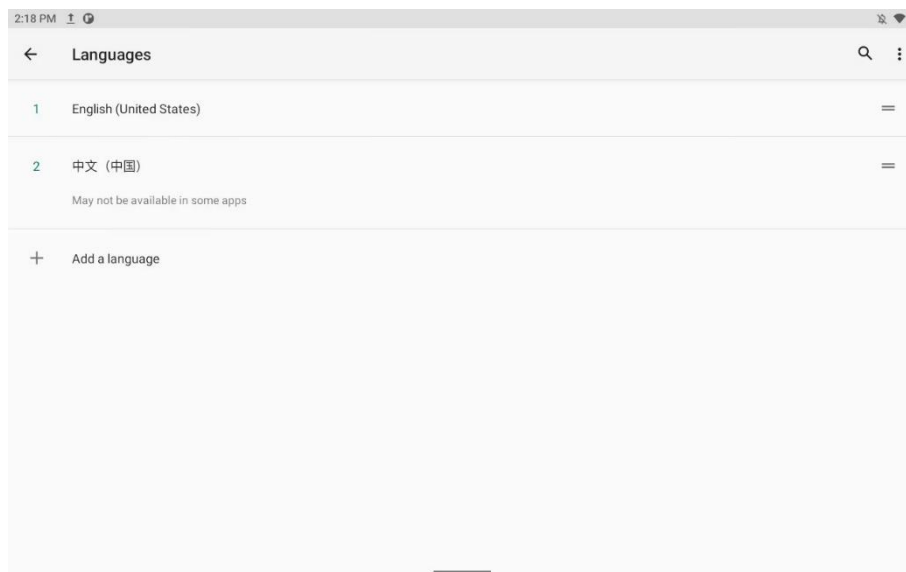

Figure 1
2) Tap Languages & input, then tap Languages, and tap + Add a language to add the language you want to set, as shown in Figure 1 below.
3) Item 1 is the default current system language. Press and hold the "=" icon on the right side of the language you want to set, and move it up to Item 1 to complete the language setting, as shown in Figure 1.